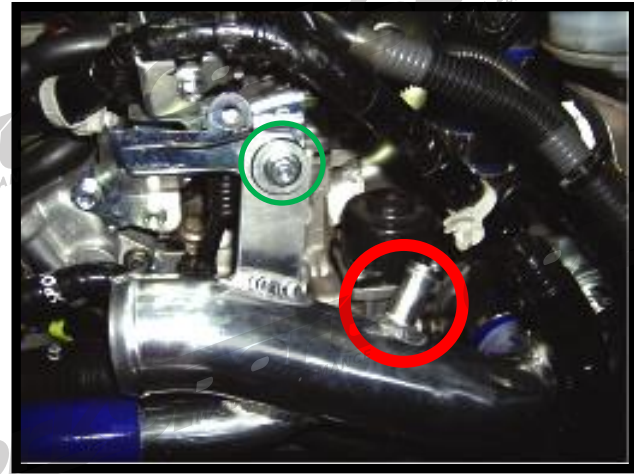

Figure 4a
- b) Attach the bracket on the CorkSport Turbo Inlet** over the stud on the factory valve cover bracket and start the nut onto the stud (shown in **Figure 4a**). Then tighten the t-bolt band clamp at the turbocharger compressor inlet with 10mm deep socket and 12" extension.
a) Place the CorkSport TIP in a similar orientation to the factory pipe. Feed the silicone coupler end of the TIP toward the turbocharger inlet. Align the bracket on the CorkSport Turbo Inlet pipe with the stud on the valve cover bracket and connect the silicone coupler over the end of the turbocharger compressor inlet, taking care to keep the loose hose clamp in place (shown in **Figure 4a**). This should fit easily - if not, the t-bolt band clamp is probably too tight.
b) Attach the bracket on the CorkSport Turbo Inlet over the stud on the factory valve cover bracket and start the nut onto the stud (shown **green circle** in **Figure 4a**). Check to ensure that the silicone coupling is still fully engaged between the turbocharger and turbo inlet pipe and tighten the nut the rest of the way. Adjust as needed before tightening the nut. Then tighten the t-bolt band clamp at the turbocharger compressor inlet with 10mm deep socket and 12" extension.